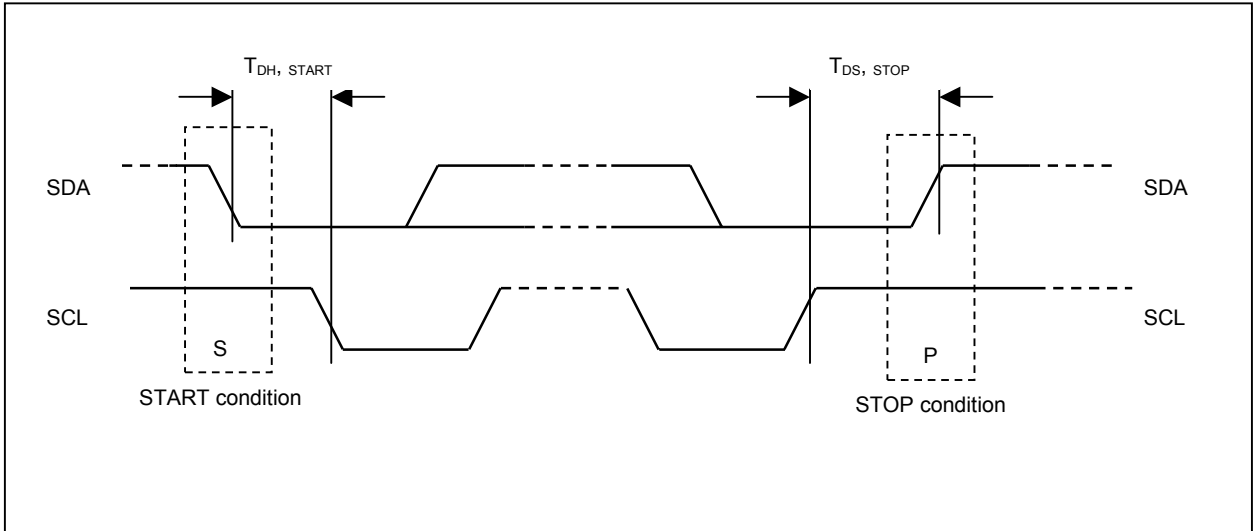

Figure 9 - Definition of the start and stop condition
- 1) The master device initiates the data communication by a start condition. The definition of the start condition is shown in Figure 9. The start condition is established by pulling the SDA from high to low while the SCL stays high.
- 7) The write mode will be finished when a stop condition is applied. The stop condition is also defined in Figure 9. The stop condition is established by pulling the “SDA in” from low to high while the “SCL” stays high.